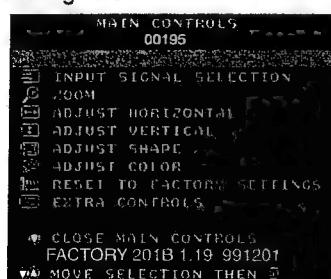

Fig. 2.1
Step 1: To select the character "FACTORY MODE" as shown in Fig. 2.1, press " " to access the OSD menu for R/G/B gain & cutoff as shown in Fig. 2.2.
: Press " " to show the OSD menu as shown in Fig. 2.1.